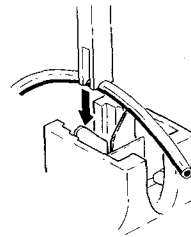

Fig. 39—Align tool with U-contact.
- b. Align 4051 Tool with U-contact and wire. The slot is aligned with the U-contact and the groove with the wire. See Figure 39.